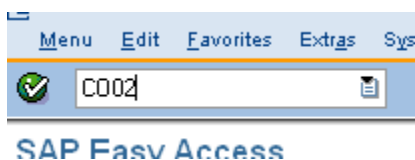

Fig. 1
- 5.2. Enter T code co02 or select from favorites in the text box at the top of the screen (Fig 1)